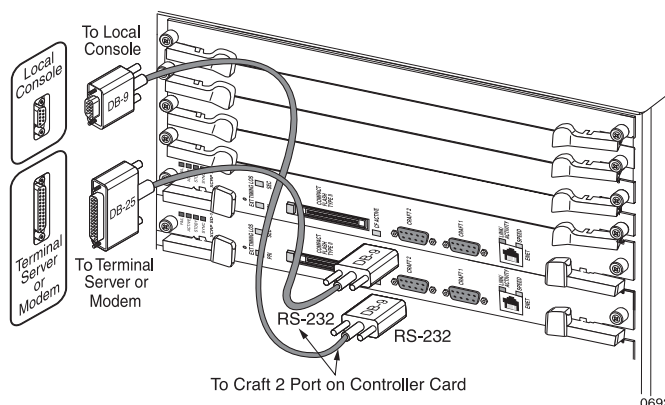

Figure 25 Connections for a Local or Remote Console
management workstation and Figure 25 for connecting a local or remote console. To connect and route the cables:
- b Console terminal; see Figure 25.
provides access to the SmartEdge OS CLI, either directly or through a terminal server. Figure 25 shows the connection to the Craft port.